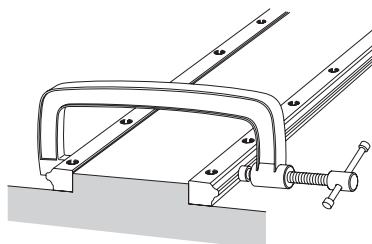

Fig.18
- (2) Use a small vice to press the two LM rails to the base so that they closely contact the reference surface, then tighten the mounting bolts to the recommended torque (see A-350). (Fig.18)